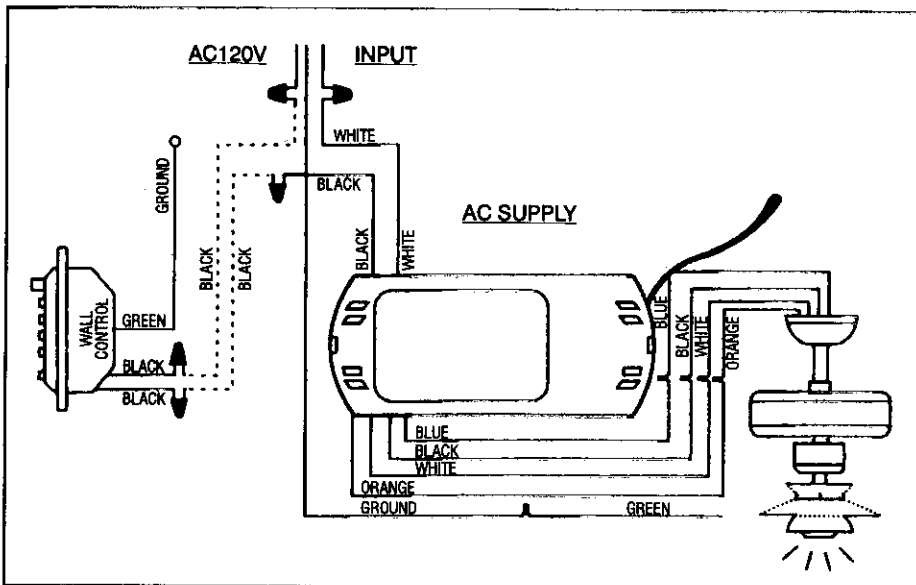

FIG. 14
Step 2. Make the electrical connections as shown in Fig. 14.